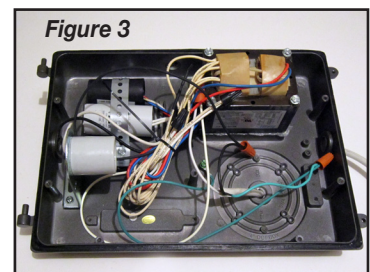

Figure 3
- 3) Starting with the lamp, remove lamp, lamp holder, capacitor, igniter, transformer and wiring from inside the enclosure. Leave at least 3” of the branch circuit inside the luminaire for connection to the retrofit kit. Caution should be taken not to touch or short the capacitor terminals - see FIGURE 3. Keep the ground wire attachment screw and wire as well as the wire nuts that were used to connect the power source as these will be used in this installation.